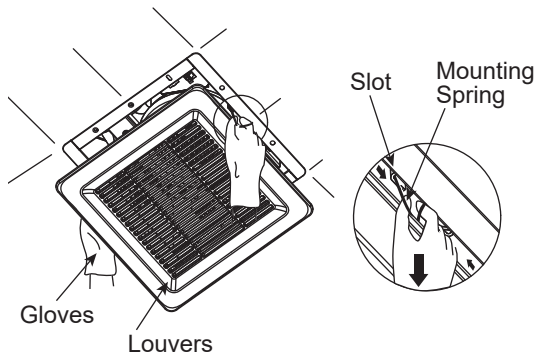

Fig. 17
1. Remove grille. Squeeze mounting spring and pull down carefully. See Fig. 17